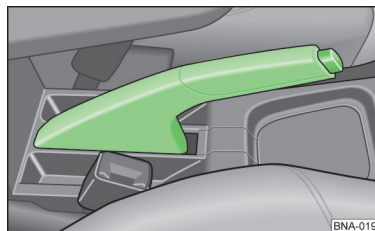

Fig. 48
- Pull the handbrake lever slightly upwards and press the lock button » fig. 48.